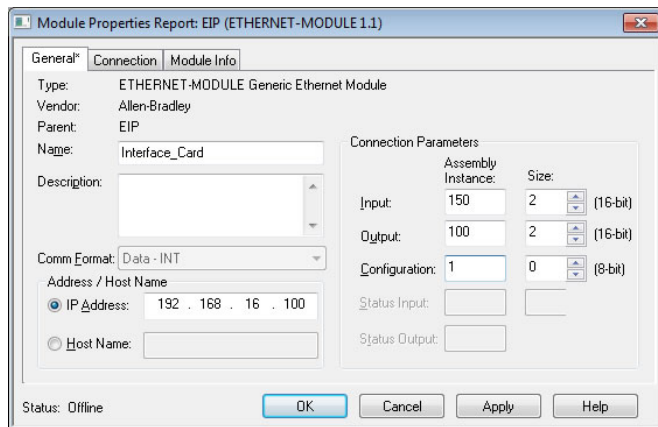

Figure 41: Interface Card Module Properties
- 19) The module properties dialog box will open (refer to Figure 41). Enter a Name which will allow easy identification of the inverter on the network (the tags created in RSLogix 5000 will be derived from this Name). Because all inverter data is stored as 16-bit registers,